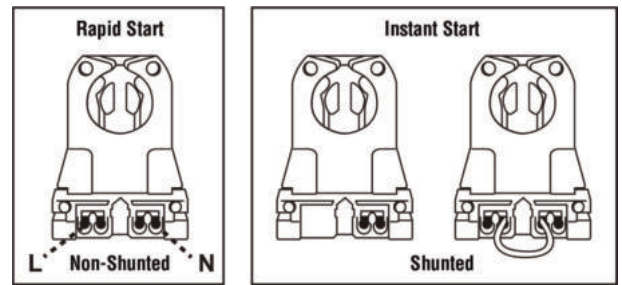

Figure 1. Non-shunted & Shunted Lamp Holder
6. Ensure that the fixture contains non-shunted G13 bi-pin lamp holders (Figure 1). If socket lamp holders are internally shunted, then replace with new non-shunted socket lamp holders. If socket lamp holders are shunted with a jumper wire, remove wire to convert into non-shunted sockets.